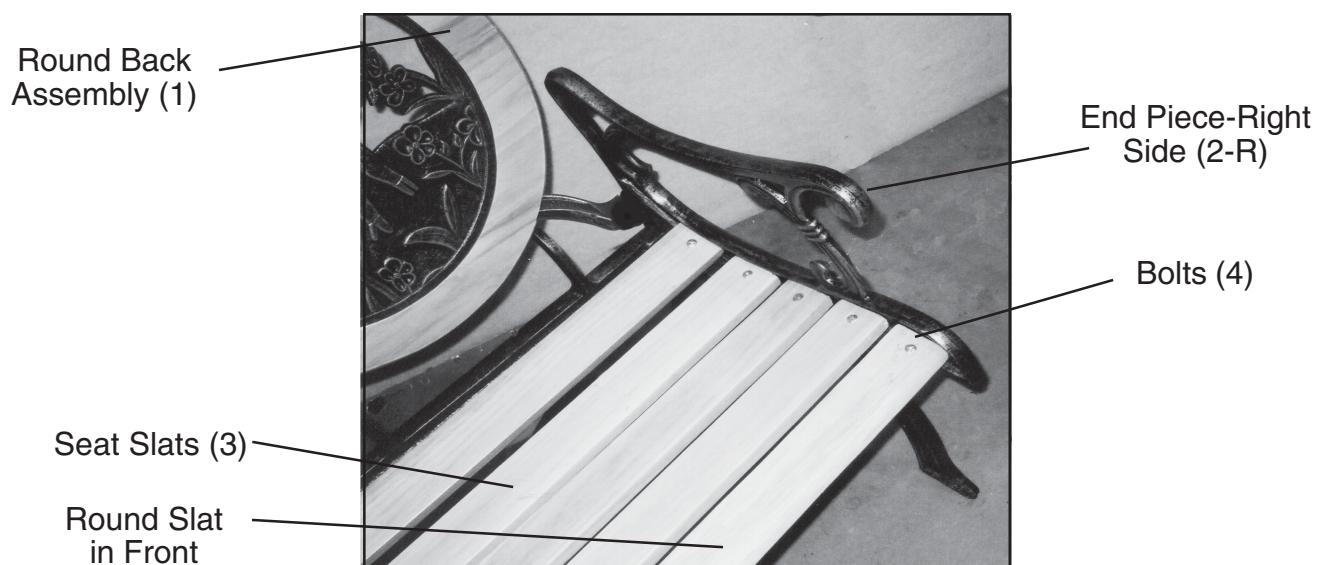

Figure 1
1. **PLACING SLATS:** Attach the five Seat Slats (3) in the channel of the End Pieces (2) as shown. **Note:** The Round Slat is to be anchored in the front of the Bench. Use the Bolts, Washers, and Nuts (4) to attach. **See Figure 1.**